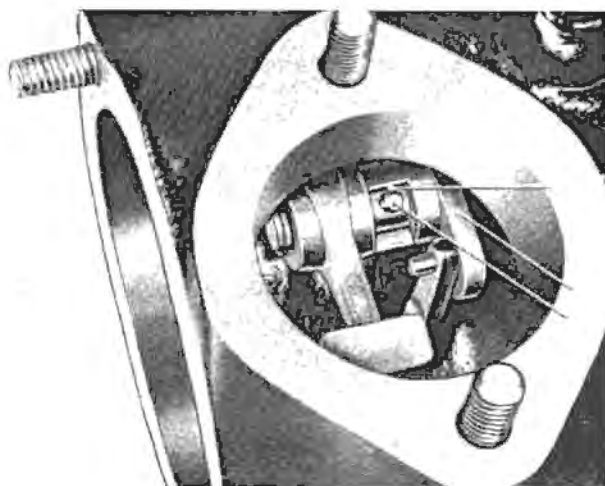

Fig. K.11.—Pick-up Lever Clearance
- (i) Adjustment of kick diaphragm.—With choke valve closed, .010" clearance should be given between strangler spindle pin and pick-up, adjusted by washers on diaphragm spindle (see Fig. K.11).